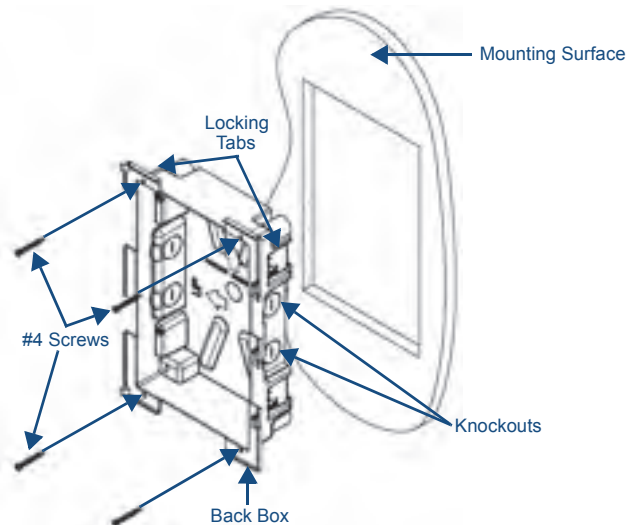

FIG. 4 MXD-1001 Back Box Installation (Portrait)
The back box (FIG. 4) is designed to attach the panel to most standard wall and solid surface materials. This back box has four locking tabs (two on top and two on bottom) to help lock the back box to the wall. These locking tabs are only extended AFTER the back box is inserted into the wall. Using the locking tabs is highly recommended for standard mounting surfaces such as walls. For thin walls and solid surfaces, use #4 mounting screws (not included).
7. Remove the back box knockouts (FIG. 4) and thread the incoming wiring through the knockout holes. To facilitate installation, thread the Ethernet cable through a bottom knockout (Landscape) or a right-side knockout (Portrait), and the Micro-USB or USB cables through a top knockout (Landscape) or left knockout (Portrait).